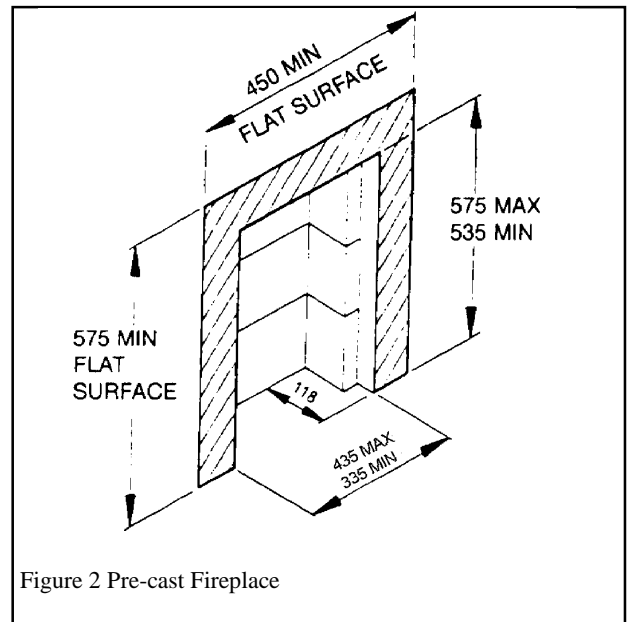

Figure 2 Pre-cast Fireplace
2. To a fireplace that has a precast concrete or clay flue block system conforming to BS1289. The appliance is suitable for installations conforming to older versions of BS1289 as well as the current edition. The flue blocks must have a minimum width not less than 63mm and a cross-sectional area not less than 13,000mm². Older editions of BS1289 required a cross-sectional area of 13,000mm². The current revision of the standard requires 16,500mm². This appliance is suitable in both cases. The total depth of the opening measured from the finished front of the fireplace (Including plaster, surround etc.) must be **not less than 118mm** (Figure 2). The current version of BS1289 recommends that there should be an air space or insulation between the flue blocks and the plaster because heat transfer may cause cracking on directly plastered flues. However, generally this appliance is suitable for installations under all circumstances unless there is a history of cracking problems. Remember that faults such as cracking may be caused by poorly built and restrictive flues, e.g. mortar extrusions, too many bends, flue heights below three metres, restrictive terminations, etc.